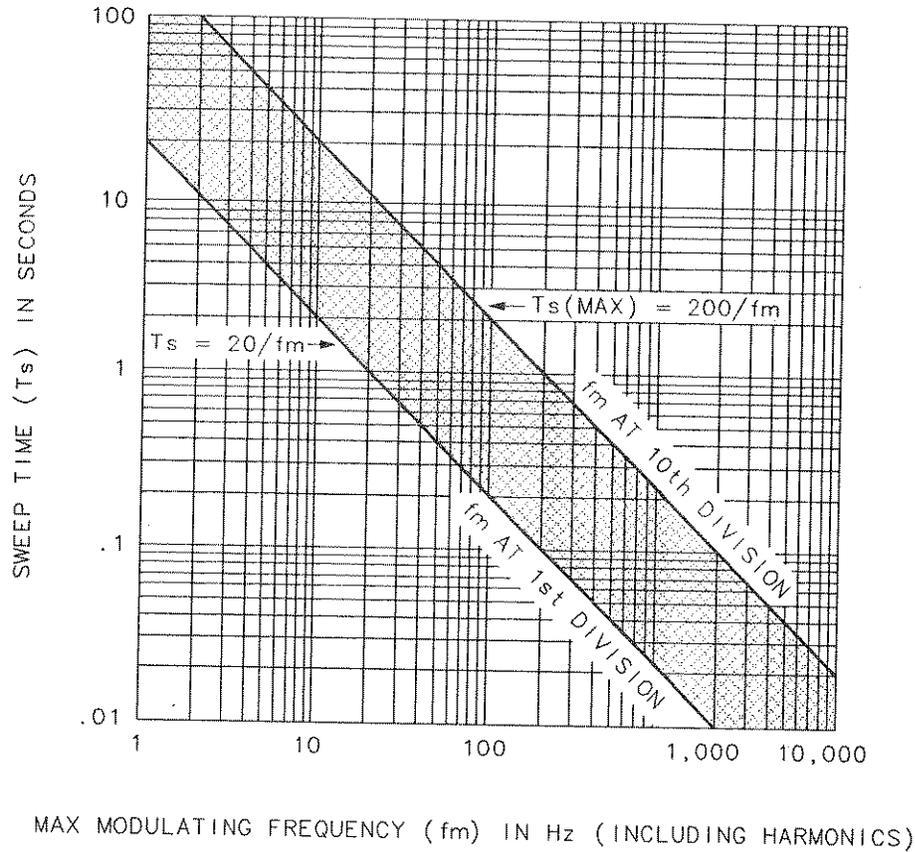

Figure 6-28. Maximum Modulation Frequency versus Sweep Time
7. See Figure 6-28, which shows maximum modulation frequency (f_m) in Hz versus sweep time (T_s) in seconds. Set the sweep time less than $T_s(\text{max})$ for that maximum modulation frequency (f_m) including the harmonics of the signal. The upper curve relates the sweep time to the maximum modulation frequency that can be observed (that is, the modulation frequency represented by the right edge of the graticule). The lower curve represents the modulation frequency one division from the left side of the graticule.